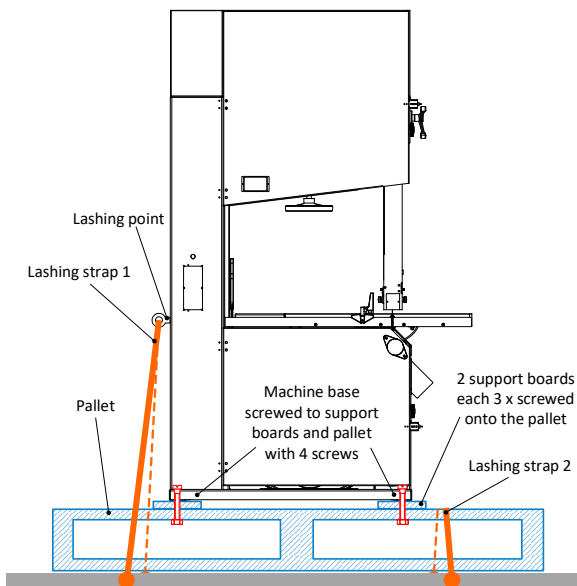

Figure 10: Lashing models BSB 400 / 500 / 600
- For this, there is a lashing point for lashing strap 1 on the left machine column (see ⇒ Figure 10). The pallet is directly lashed with lashing strap 2.